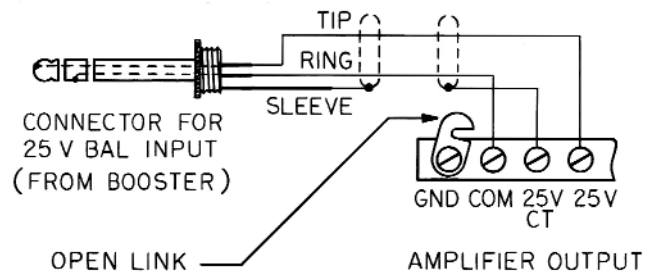

Figure 6 – Booster Amplifier Output Connection for MCP35A
8. 25V BAL. INPUT - (From Booster) Stereo phone jack accepts input from a booster amplifier. Refer to Figure 6.
Model BPA60 provides increased power output. To install, connect a cable terminated in a male phone plug from the MCP35A Line Out jack to the Hi-Z input jack on the rear panel of the amplifier. Connect the 25V output from the amplifier to input jack labeled 25V BAL INPUT. Refer to Fig. 6.